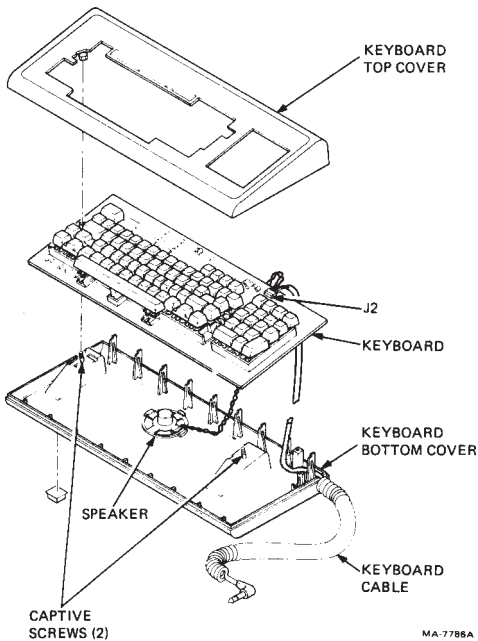

Figure 2-19 Keyboard Disassembly
4. Loosen the captive screws holding the keyboard together (Figure 2-19).
2. Disconnect the keyboard cable (J2) from the keyboard (Figure 2-19).
3. Disconnect the keyboard cable from the speaker (Figure 2-19).